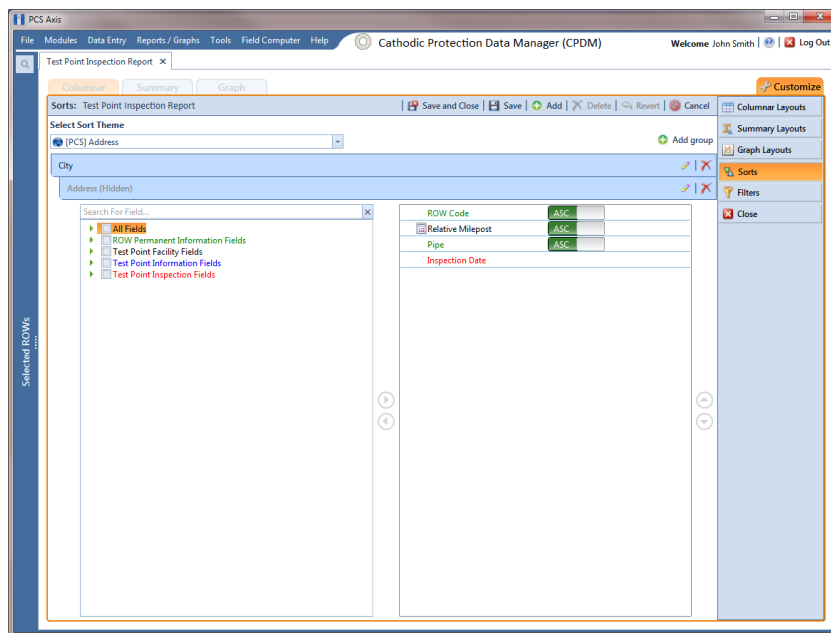

Figure 16-40. Sorts
- Click the **Customize** tab  then the **Sorts** button  to open the *Sorts* page (Figure 16-40).